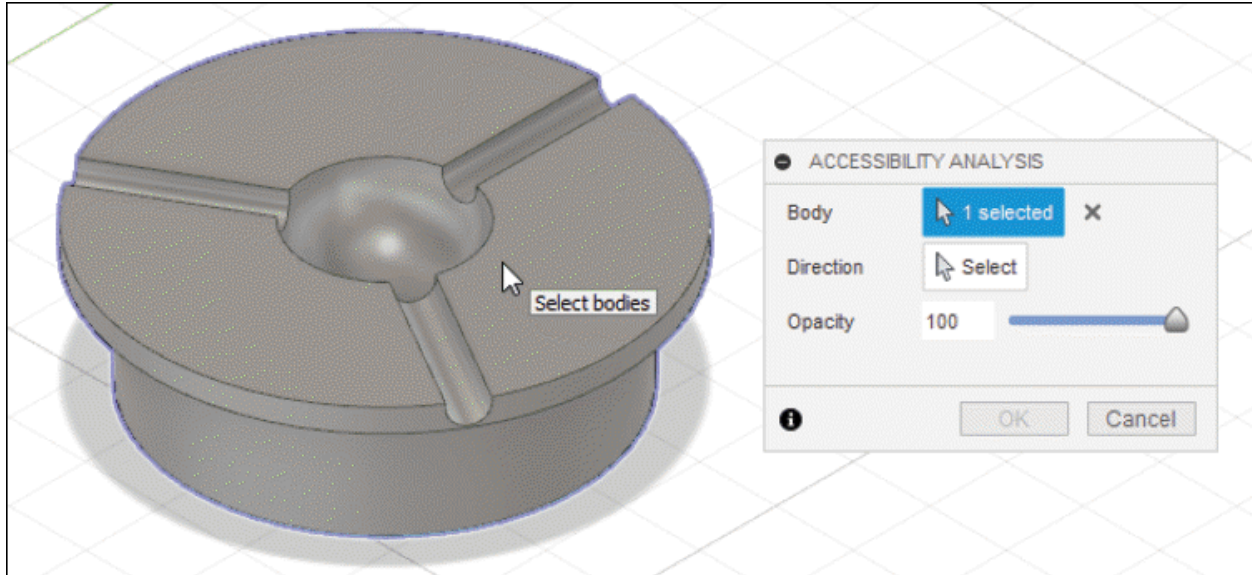

Figure-60. Selecting the body
- The **Select** button of **Body** section is active by default. Click on the face of the body to select; refer to Figure-60. You will be asked to select a direction.